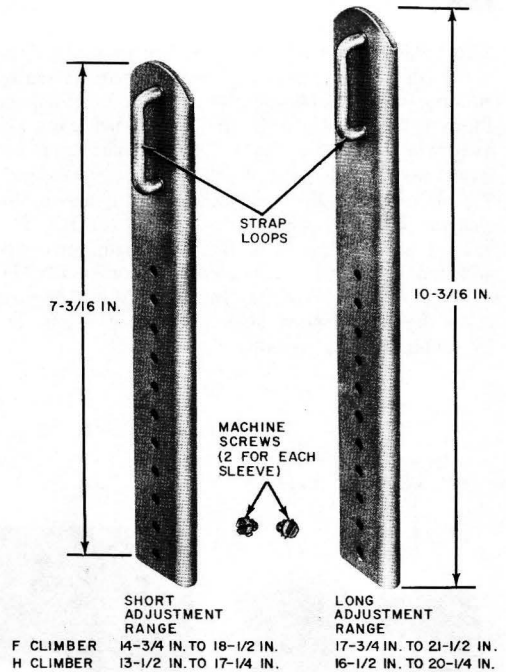

Fig. 4—♦Sleeves for Adjustable Climbers♦
3.08 The sleeves used on adjustable climbers are designed to fit snugly over the shank of the leg irons and to be securely locked in the desired position by machine screws. The sleeves are available in two lengths and can be adjusted in increments of 1/4 inch. Figure 4 illustrates the sleeves, the lengths available, and the adjustment range of each sleeve.